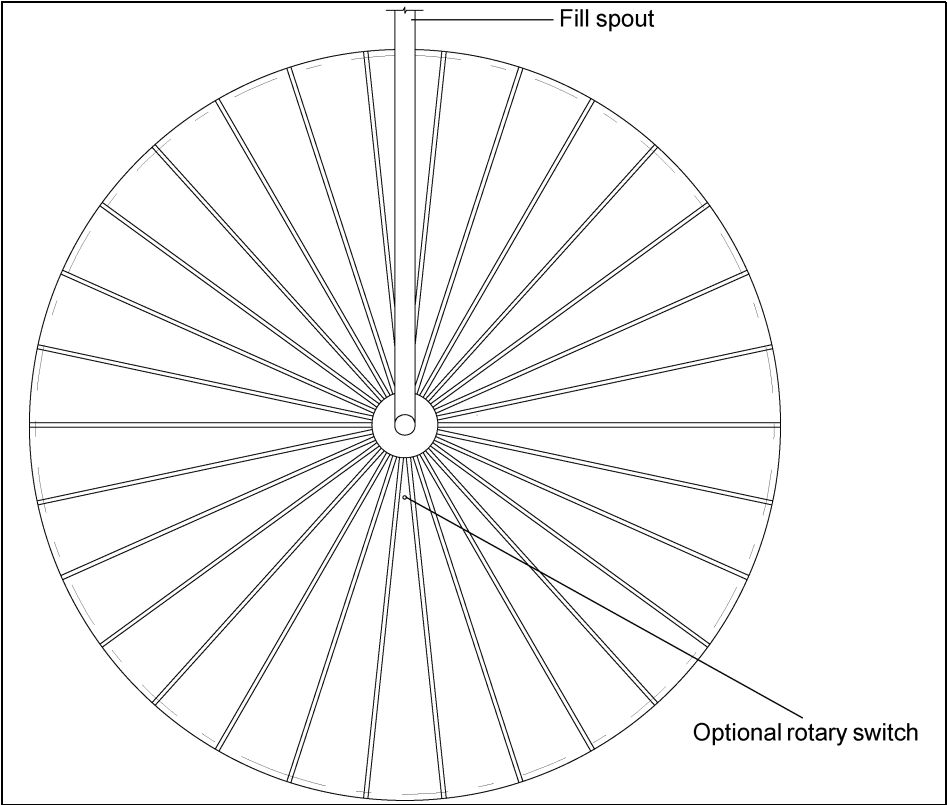

Figure 9W Overhead View of Optional Rotary Switch Locations
Drill 2" diameter holes through roof panels at locations as shown in Figure 9W. Use a mounting plate as a pattern and drill four (4) 3/8" holes through roof panels at each switch location so the plate can be bolted to the roof.
Drill 2" diameter holes through roof panels at locations as shown in Figure 9W on Page 72. Use a mounting plate as a pattern and drill four (4) 3/8" holes through roof panels at each switch location so the plate can be bolted to the roof.